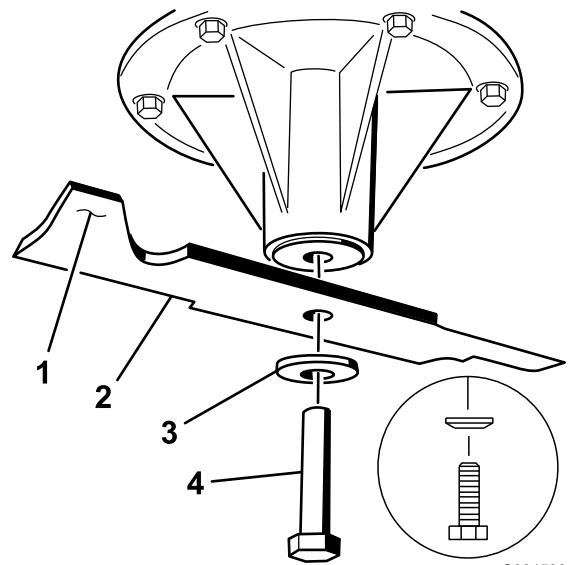

Figure 63
2. For 48-inch mower decks, remove the blade bolt, curved washer, and blade from the spindle shaft (Figure 63).
Note: If the blade stays in a horizontal position, the blade is balanced and can be used. If the blade is not balanced, file some metal off the end of the sail area only (Figure 63).
1. Install the blade onto the spindle shaft (Figure 63).
Important: The sail part of the blade must be pointing upward, toward the inside of the mower to ensure proper cutting (Figure 63).
2. For 48-inch mower decks, install the blade, curved washer, and the blade bolt (Figure 63).